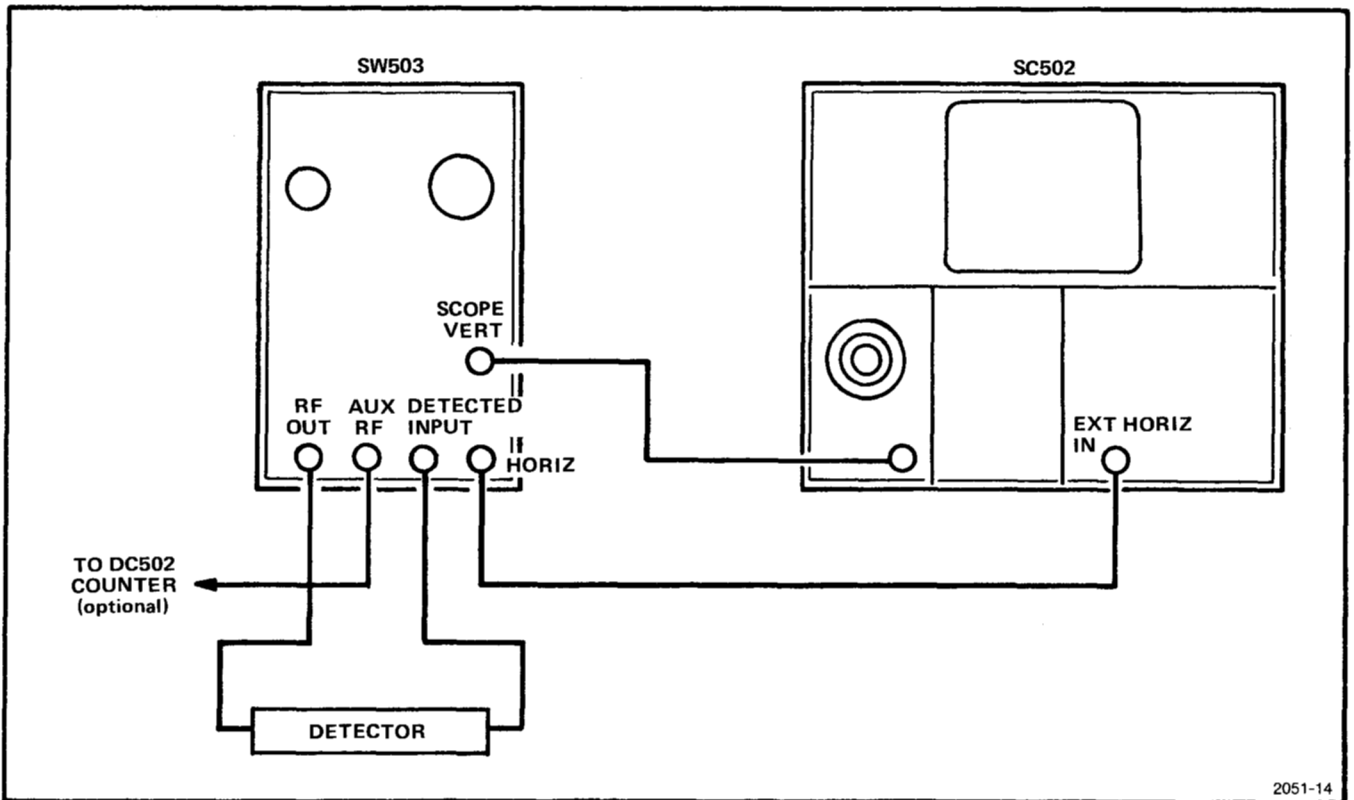

Figure 3-5. Normal interconnections for calibration.
d. Connect the SW 503 to the display oscilloscope as indicated in Figure 3-5, and set the controls as follows:
a. With the SW 503 connected to the display oscilloscope as in Figure 3-5, set the controls as follows: